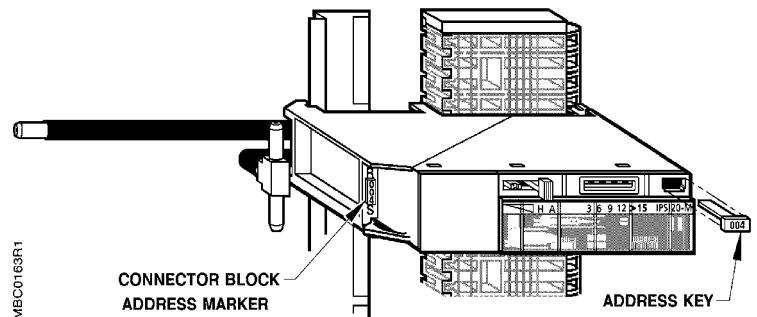

Figure 3. Inserting the PTM Address Key and Marker.
3. Insert the address key into the slot located in the upper right corner of the point module (Figure 3).
4. Snap the address marker into the connector block (Figure 3).